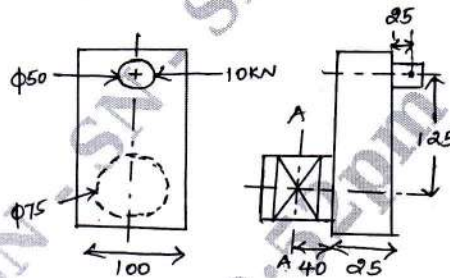

Fig.Q1(c)
- c. Determine maximum normal stress and maximum shear stress at section A – A for crack pin as shown in Fig.Q1(c) when a load of 10 kN is assumed to be concentrated at centre of crank pin. (08 Marks)